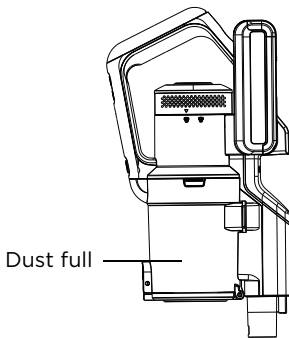

Fig. 9
1. When the dust container reaches the MAX line marked on the container (fig 9) or when the suction power is reduced, it is time to empty the dust container.